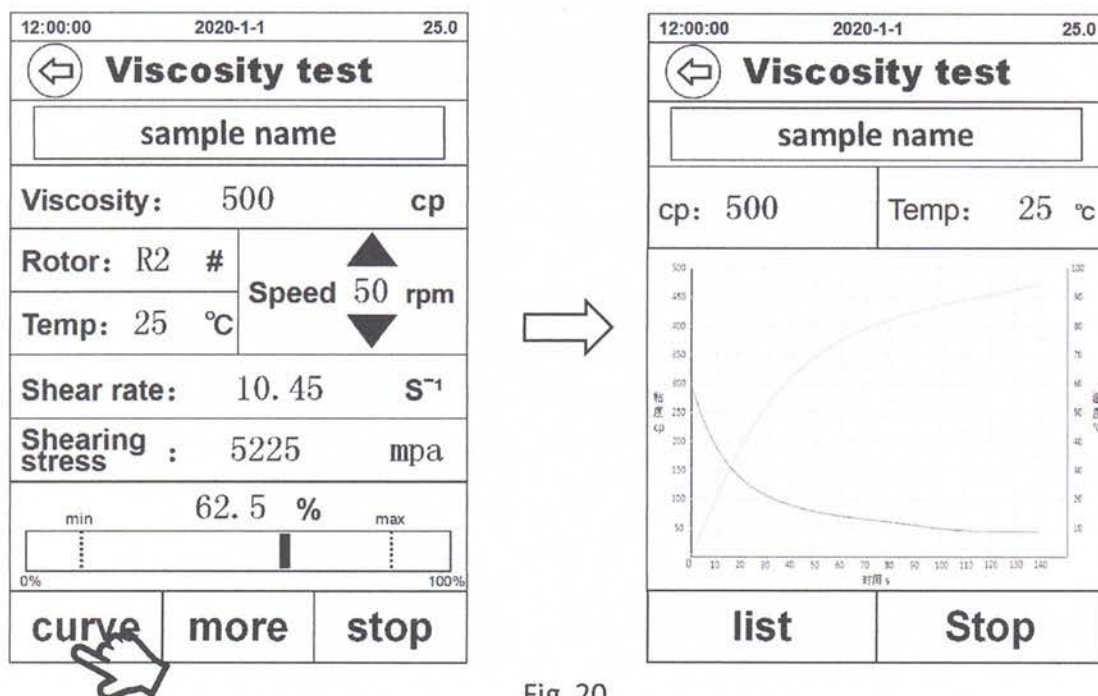

Fig. 20
4) Click “Curve” during the test, and the display interface will change from the list display to the coordinate system display status (Fig.20). To return to the list interface, click the “←” icon in the upper left corner or click the “List” button.